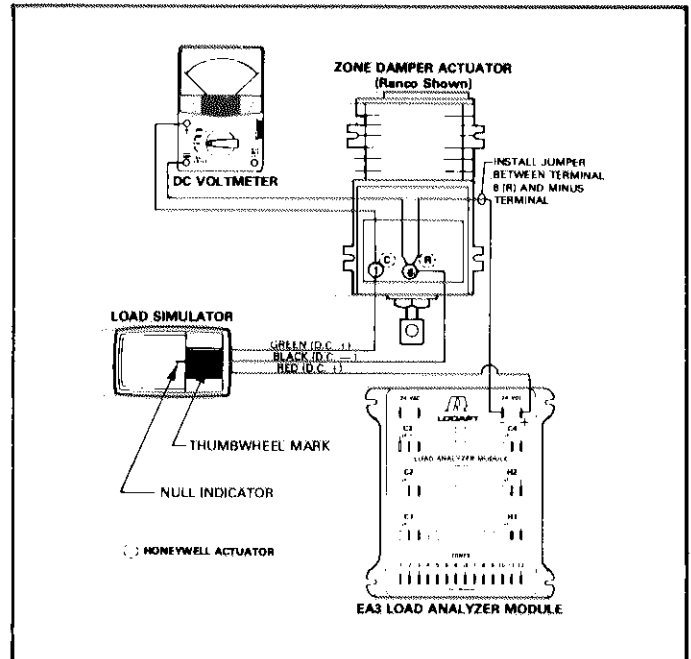

FIGURE 106
- b - Set Load Simulator by aligning thumbwheel mark with null indicator. See Figure 106.
- d - Connect Load Simulator and DC voltmeter leads as shown in Figure 106.